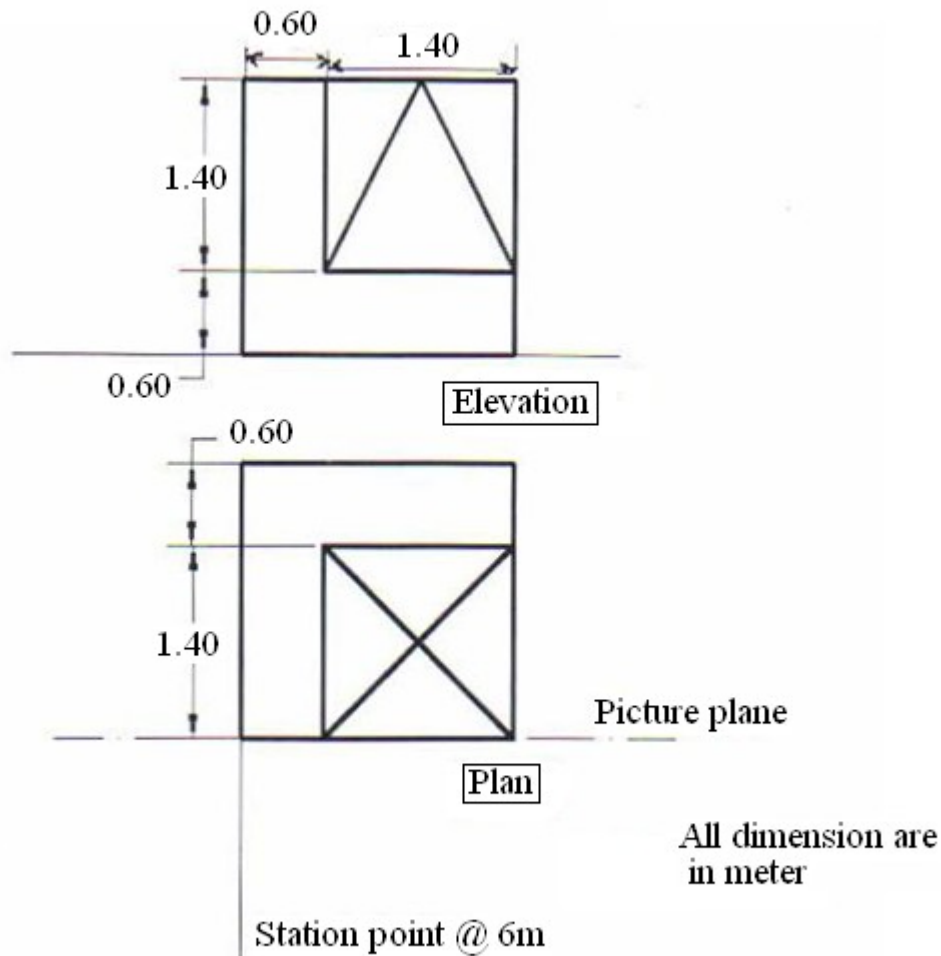

Fig. 2
b) Draw a one point perspective view (Fig. 2) to a scale 1:100 or suitable. Eye level positioned at 2.5 m above ground level. Retain all construction line. [10]